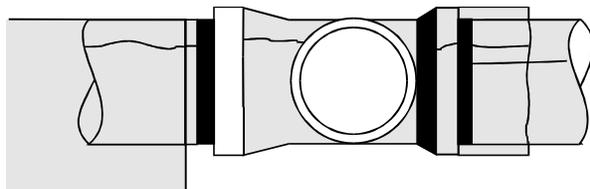

Figure 11
22. Pull the sleeve tightly around the body of the tee and fold the surplus neatly at the crown. Tape around the circumference of the tee immediately behind the socket (Figure 11).